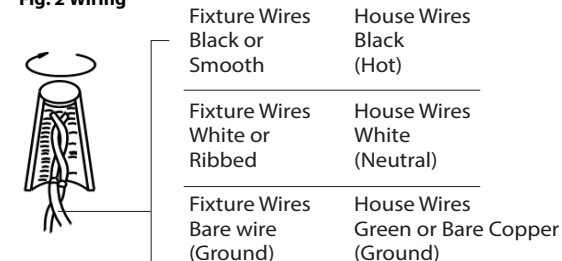

Fig. 3 4CCT Switch
3. Remove the mounting screws (B) from the mounting plate.
4. Put the triangular crystal into the fixture, lock it with the triangular crystal screws (C).
6. The fixture can switch between four color temperatures (3000K-3500K-4000K-5000K), which can be adjusted to your preference with the 4CCT switch (Fig.3).